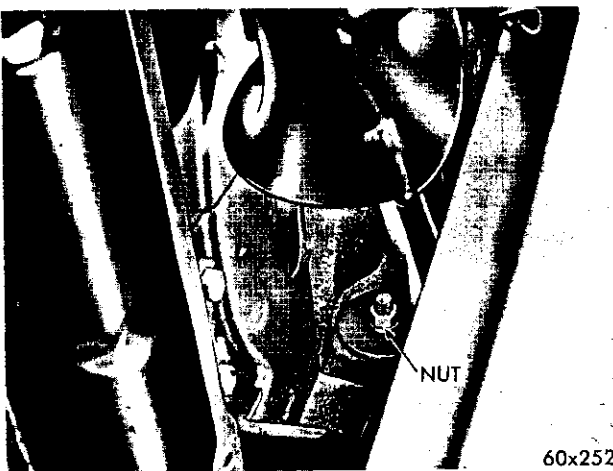

Fig. 10—Radiator Support to Frame Yoke Mounting
- (10) Remove the bolts attaching the front end sheet metal to the stub frame yokes (Fig. 10).
- (11) Disconnect the radiator yoke from the frame.
- (12) Raise the fenders off of the mounting studs at the cowl and remove all front end sheet metal